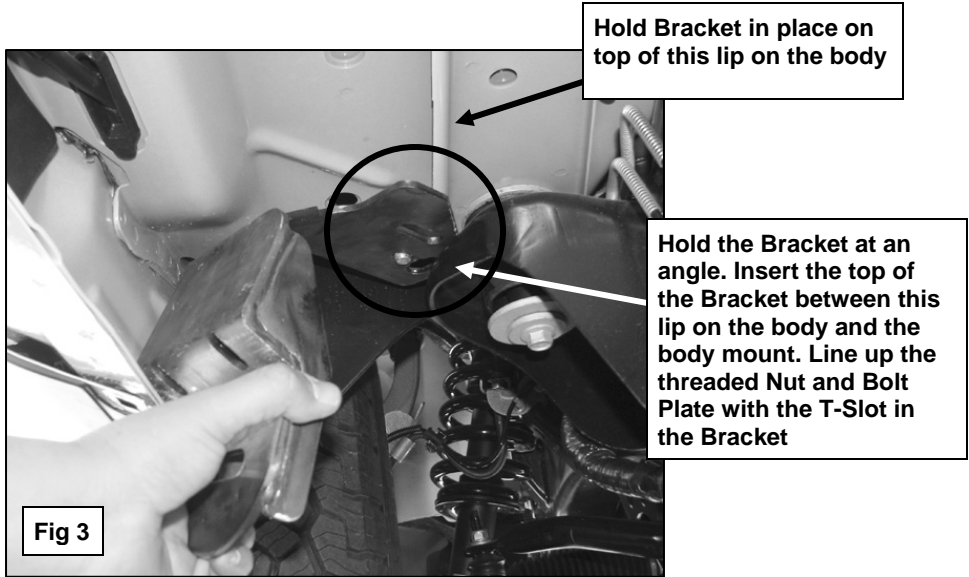

Fig 3
4. Select the driver side front Mounting Bracket and hold it at a slight angle against the body. Move the top of the Bracket into position with the threaded end of the Nut and Bolt Plate lined up with the T-Slot in the Bracket. The top of the Bracket is designed to fit snug in position between the body mount and the lip on the body so it may take a couple of tries to get the Bracket into the correct position, **(Figure 3)**.